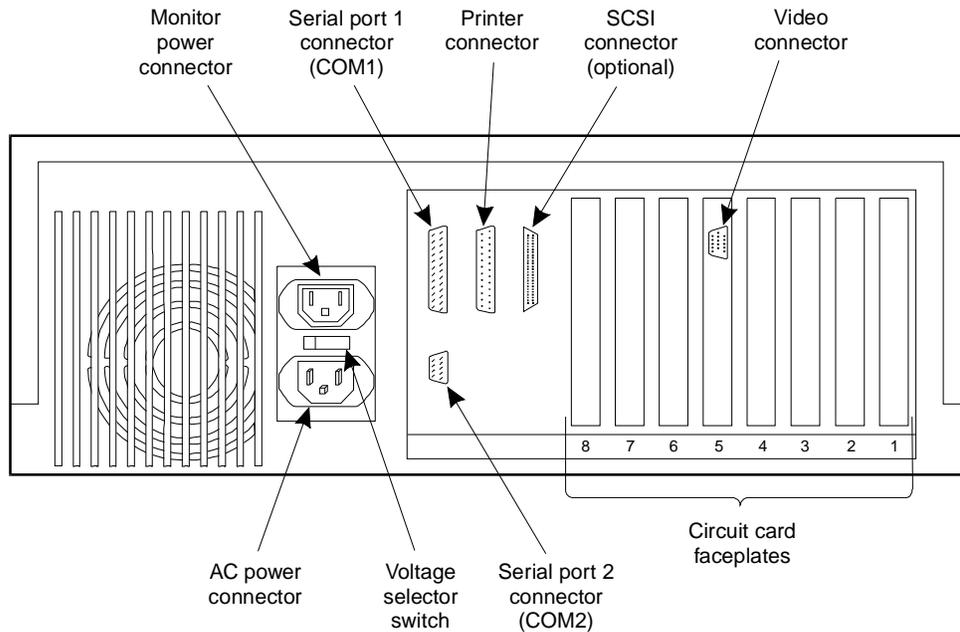

Figure 3-1. Connector Locations - Back View of the MAP/5
Make all connections, except the keyboard, on the rear of the MAP/5. The keyboard connects just behind the front panel on the left side (as you face the MAP/5). See Figure 3-1 for connector locations on the back of the MAP/5.
2. Verify that the voltage selector switch (see Figure 3-1) is set to 115V for the United States and Canada, and as appropriate for other locations.
5. Connect the 15-pin HDB-15 connector on the monitor signal cable to the matching connector on the video controller card in slot 5 on the rear of the MAP/5 (see Figure 3-1).
7. Plug the other end of the monitor power cord with the shielded pins into the monitor power outlet on the rear of the unit. See Figure 3-1.